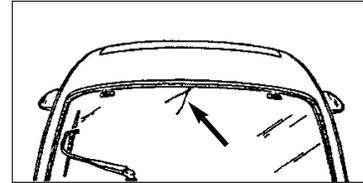

Figure 1
911 Carrera / 911 Carrera 4 (993) Figure 1